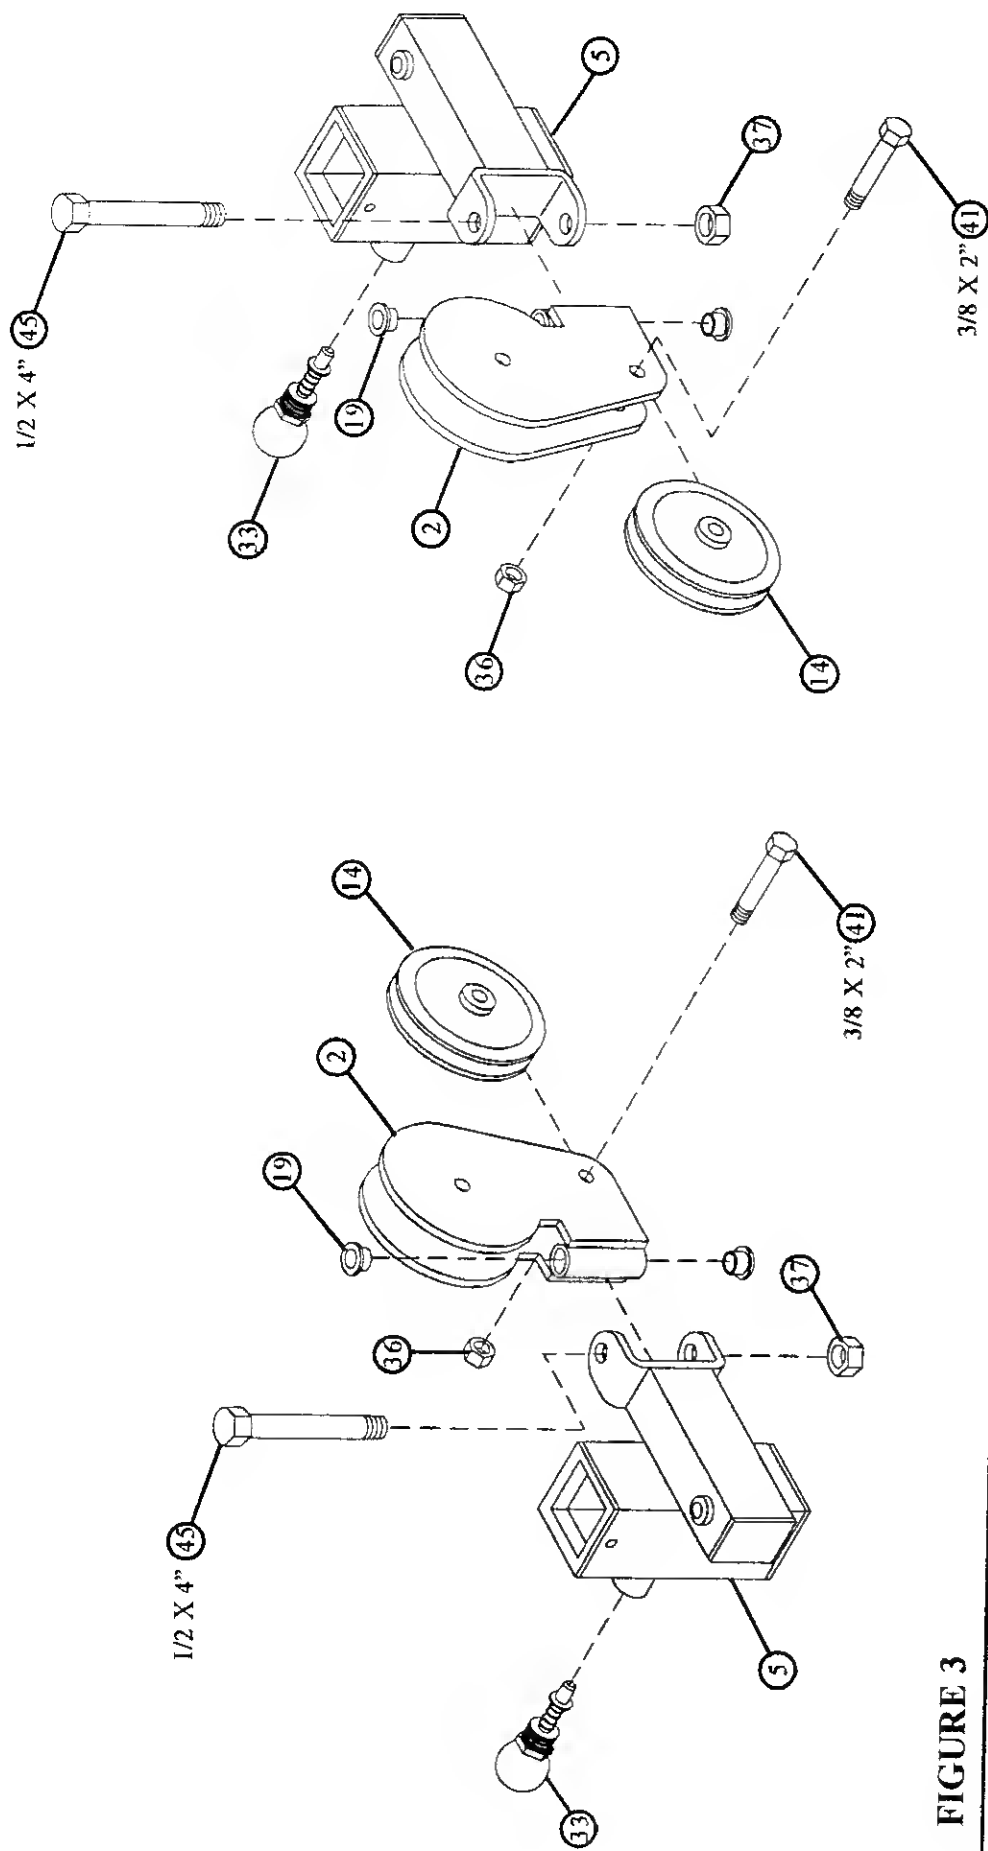

FIGURE 3
- **SECURELY** assemble two 3-1/2" PULLEYS (14) to the two NOVATRAK SWIVELS (2) using two 3/8 X 2" BOLTS (41) and two 3/8" LOCK NUTS (36). See FIGURE 3.
- Insert two 1/2" FLANGE BEARINGS (19) into each end of the NOVATRAK SWIVELS (2) and assemble them to the SWIVEL HOLDERS (5) using two 1/2 X 4" BOLTS (45), and two 1/2" LOCK NUTS (37). (**NOTE: Tighten connection enough to remove play, yet allowing the SWIVEL HOLDER (2) to rotate freely.**) See FIGURE 3.
- **SECURELY** assemble two 3/8" SPRING PIN ASSEMBLIES (33) to the SWIVEL HOLDERS (5). See FIGURE 3.